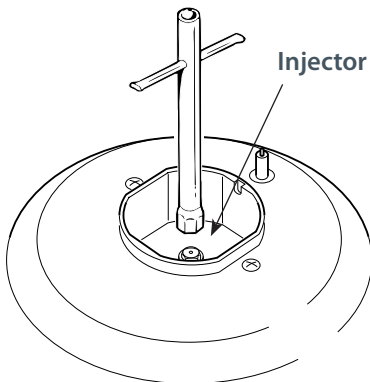

Fig. 7 Auxiliary, rapid and semi-rapid burners
- Using a spanner, remove the injector (Figs. 7 and 8) and replace it with one according to the gas type (see ‘Table for the choice of injectors’).